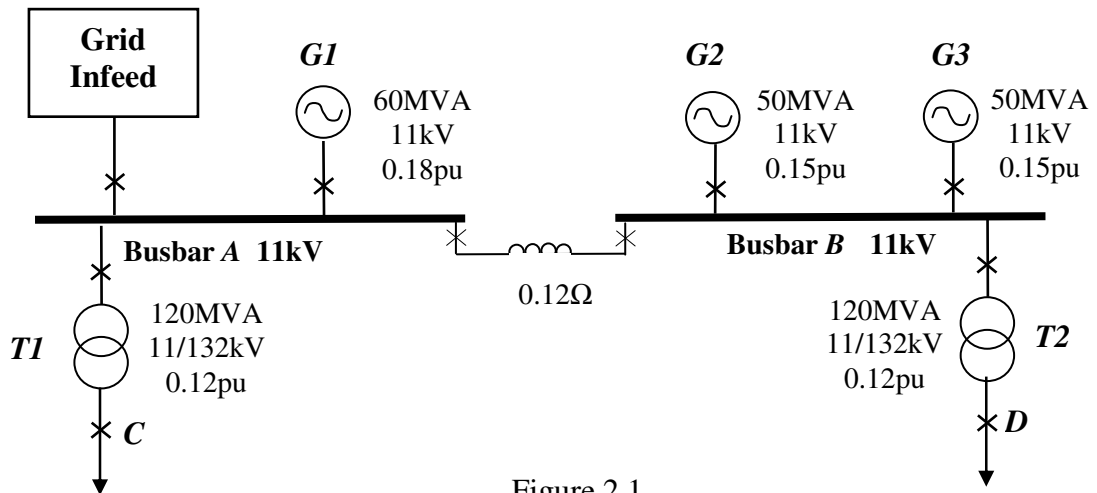

Figure 2.1
- (i) the initial operating conditions of the machine (2)
- (ii) what happens when the machine excitation is increased whilst it remains on no-load? (2)
- (iii) what happens when the excitation remains unchanged from the idling conditions in part (i) but a mechanical load is applied to the shaft? (2)
- (i) Calculate the MVA rating and the power factor at which the synchronous motor must operate. (5)
- (ii) Calculate the motor line current, excitation emf and the load angle at which the motor will be operating. (4)
- (iii) If the mechanical load on the synchronous machine reduces to 2.4MW calculate the new load angle at which the motor will operate assuming the excitation emf is unchanged. (3)
- a. Describe what in general is meant by the per-unit value of any quantity. (1)
- b. Briefly describe, with suitable diagrams where appropriate, methods for limiting fault levels in interconnected power systems. (5)
- c. Figure 2.1 shows a line diagram of a 3-phase power system consisting of two 11kV busbars linked by a fault limiting busbar reactor of 0.12Ω . The two 132kV feeders supply passive loads, and the Grid Infeed can supply 500MVA into a symmetrical 3-phase fault.